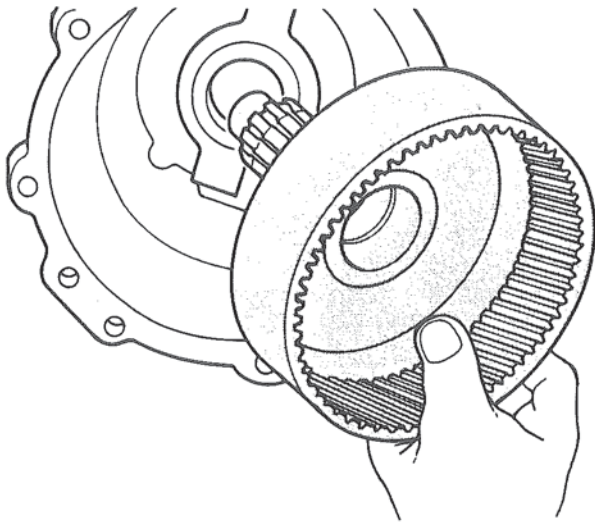

Figure 29. Installing Ring Gear and Main Shaft.
1. Place reduction housing assembly in position shown in Figure 29. Lubricate that portion of the reduction unit main shaft to be assembled into the bearing, and then install the ring gear and main shaft assembly into the bearing. The main shaft is fully assembled when the shoulder on the shaft contacts front face of bearing.